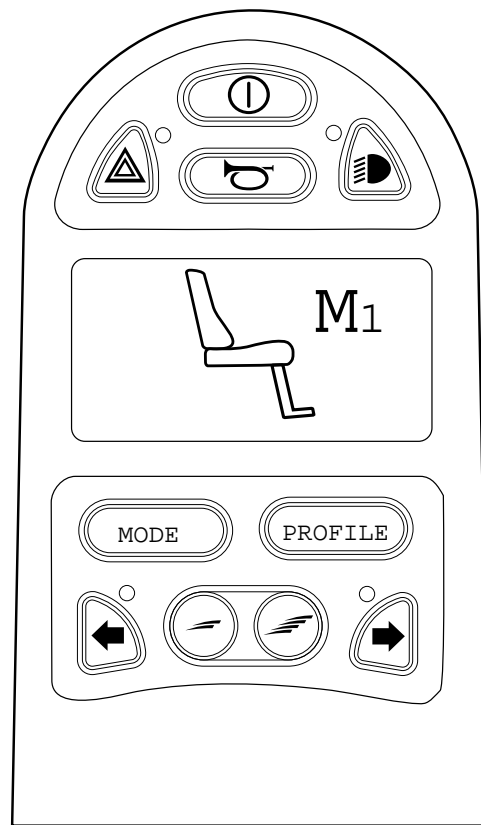

Figure 41. Memory function activated
3. Move the joystick to the left or right to select a memory location (M1, M2 or M3). A seat icon and memory symbol "M" for the memory location selected are shown in the control panel display – see fig. 41.